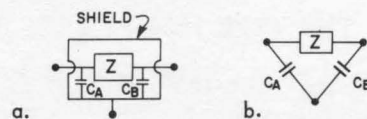

Figure 19. Shielded Three-Terminal Impedance.
**7.6 MEASUREMENTS ON SHIELDED THREE-TERMINAL COMPONENTS.** When the unknown is shielded and the shield is not tied to either unknown terminal, a three-terminal component is formed (see Figure 19). The impedance Z of the component itself is the direct impedance of the three-terminal system. To measure the direct capacitance of a three-terminal system, connect the third terminal to the panel of the instrument, using any grounded panel terminal or a ground lug with screw just below the UNKNOWN terminals. The capacitances to the shield have negligible effect as long as one of them is reasonably small (refer to paragraph 5.4.1).